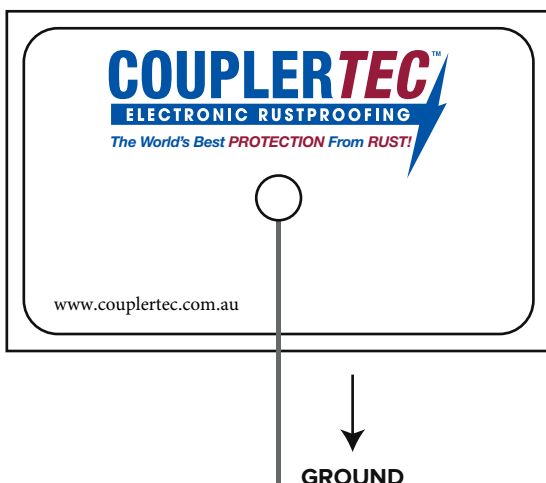

FIGURE: 2
- Once the site is clean and dry, peel off the backing paper from the back of the Capacitive Coupler ready to secure (don't touch the adhesive surface). The Capacitive Coupler must be affixed in an upright position with the wire facing downwards (refer figure 2), firmly press the Capacitive Coupler onto the prepared site making sure that there are no bubbles under the Capacitive Coupler. The Capacitive Coupler must be 100% in contact with the painted metal surface.